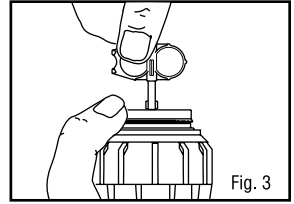

Fig. 3
1. Insert the key end of the Hunter wrench into the adjustment socket (Fig. 1 and Fig. 3)